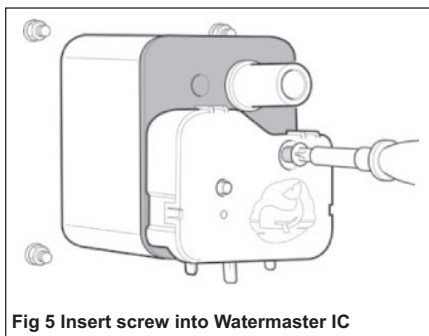

Fig 5 Insert screw into Watermaster IC
Step 6 - Plug Watermaster IC onto socket (see Fig 5) and tighten screw (**NB** - Do Not Overtighten)